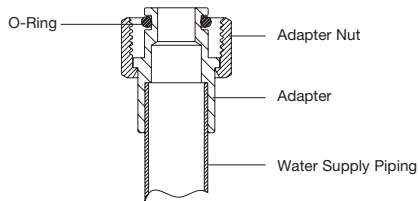

Figure 3A
7. Place O-rings on adapter grooves (Figure 3A).